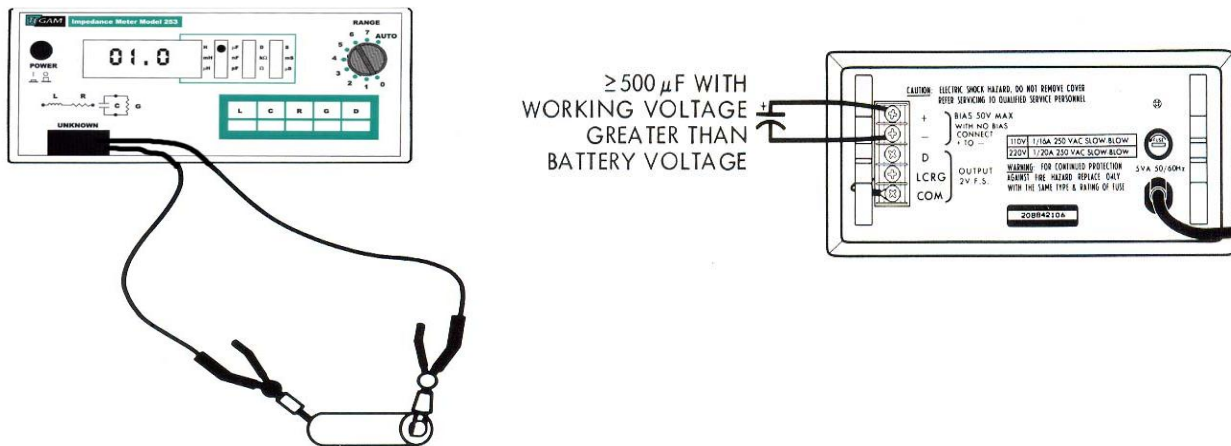

Figure 2-12. Measuring Battery Impedance
3. Connect a 500 μF (or larger) capacitor, whose working voltage is greater than the rated voltage of the battery, to the bias terminals (see Figure 2-12). Observe correct polarity when connecting the capacitor.
4. Connect the test leads with the red hinge-spool to the positive battery terminal and the black hinge-spool to the negative (see Figure 2-12).